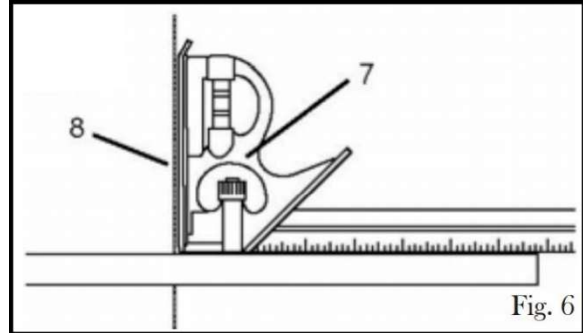

Figure 6
- Using a combination square (7) to set the table so that it is exactly 90° in relation to the scroll saw blade (8). If there is a gap between the combination square and the blade adjust the table until the gap is no longer. (See figure 6)